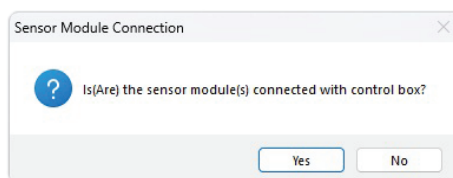

Figure 17. Select RS485 from the drop down menu
- Next, click "No" button as in Figure 17.